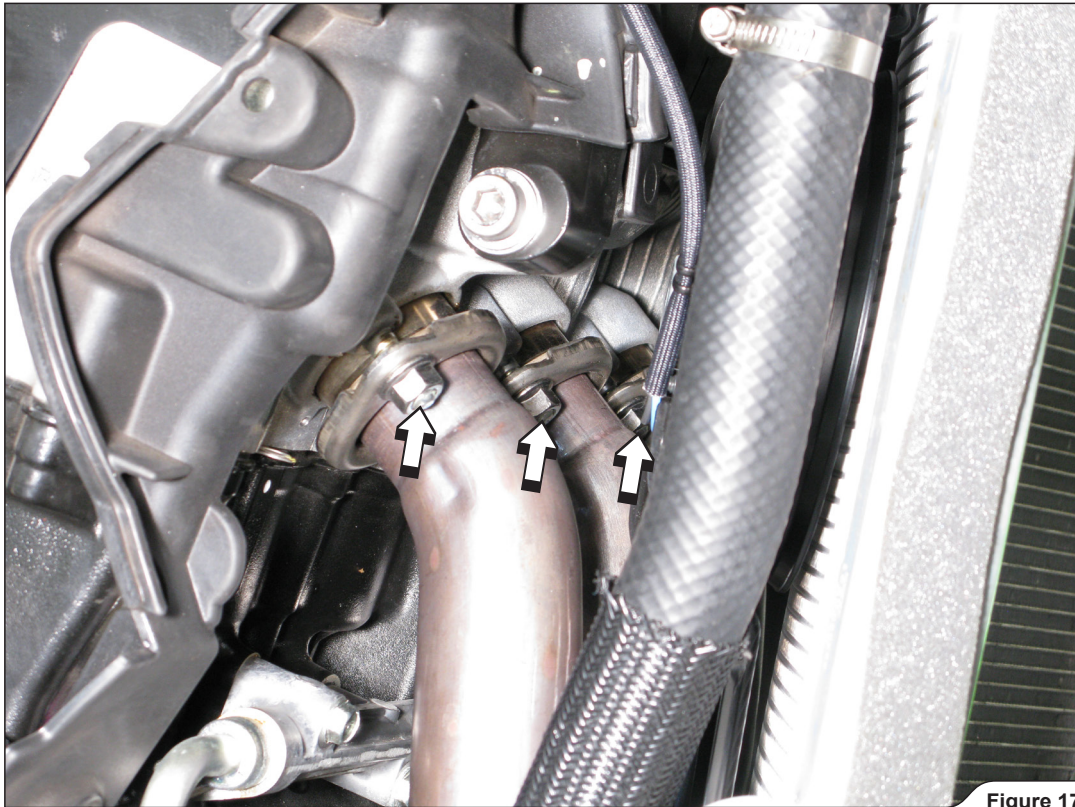

Figure 17
11. **For Optional Headers only:** unscrew all eight flange nuts and remove the stock header pipes off the motorcycle (Figure 17).